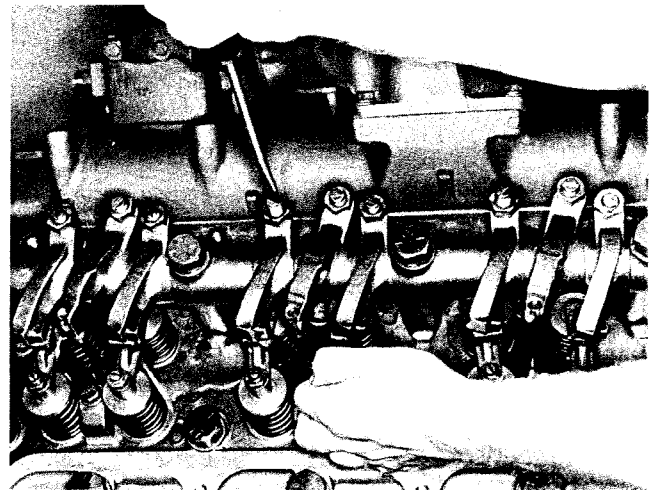

Fig. 2-56, (V51492). Adjusting valves
1. Loosen locknut and back off adjusting screw. Insert feeler gauge between rocker lever and top of crosshead. Valve clearances are shown in Table 2-7. Turn screw down until lever just touches gauge and lock adjusting screw in this position with locknut. Fig. 2-56. Torque locknut to values indicated in Table 2-6, note Step 3 under "Injector Plunger Adjustment."